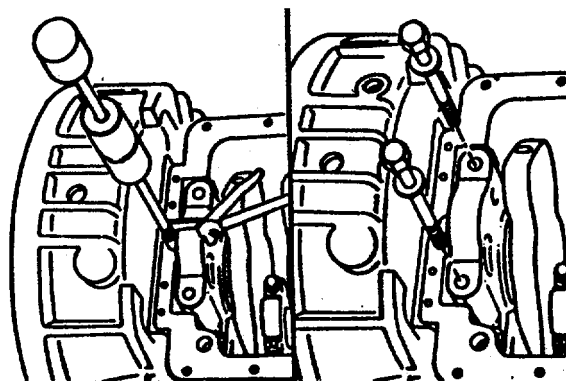

FIGURE 4-43. Removing Main Bearing Cap.
- (2) Use the main bearing cap puller to remove the cap (FIGURE 4-43) .